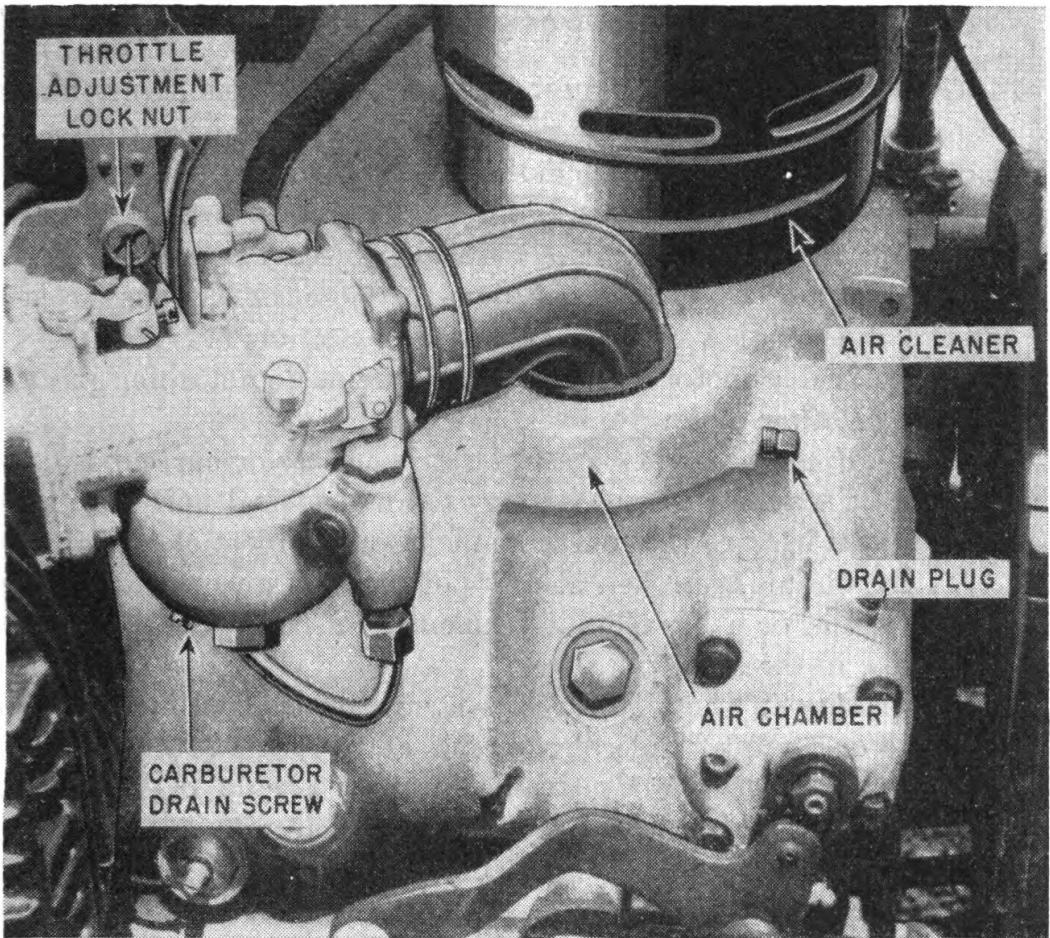

FIGURE 88.—Air cleaner mounting on Harley-Davidson shaft-driven motorcycle.
**72. Air cleaner.**—The upper part of the Harley-Davidson transmission case contains a large air chamber separated from the gear housing by a cast-in wall (fig. 88). The top of the case has three holes. The carburetor air-intake hoses are connected to the two